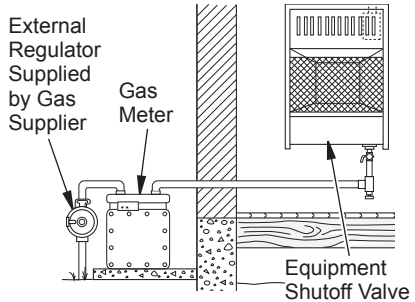

Figure 17 - Natural Gas Supply
3. Check all joints from gas meter to equipment shutoff valve for natural gas or propane supply to equipment shutoff valve for propane (see Figure 17 or 18). Apply a noncorrosive leak detection fluid to all joints. Bubbles forming show a leak.
5. Check all joints from equipment shutoff valve to control valve (see Figure 17 or 18). Apply a noncorrosive leak detection fluid to all joints. Bubbles forming show a leak.